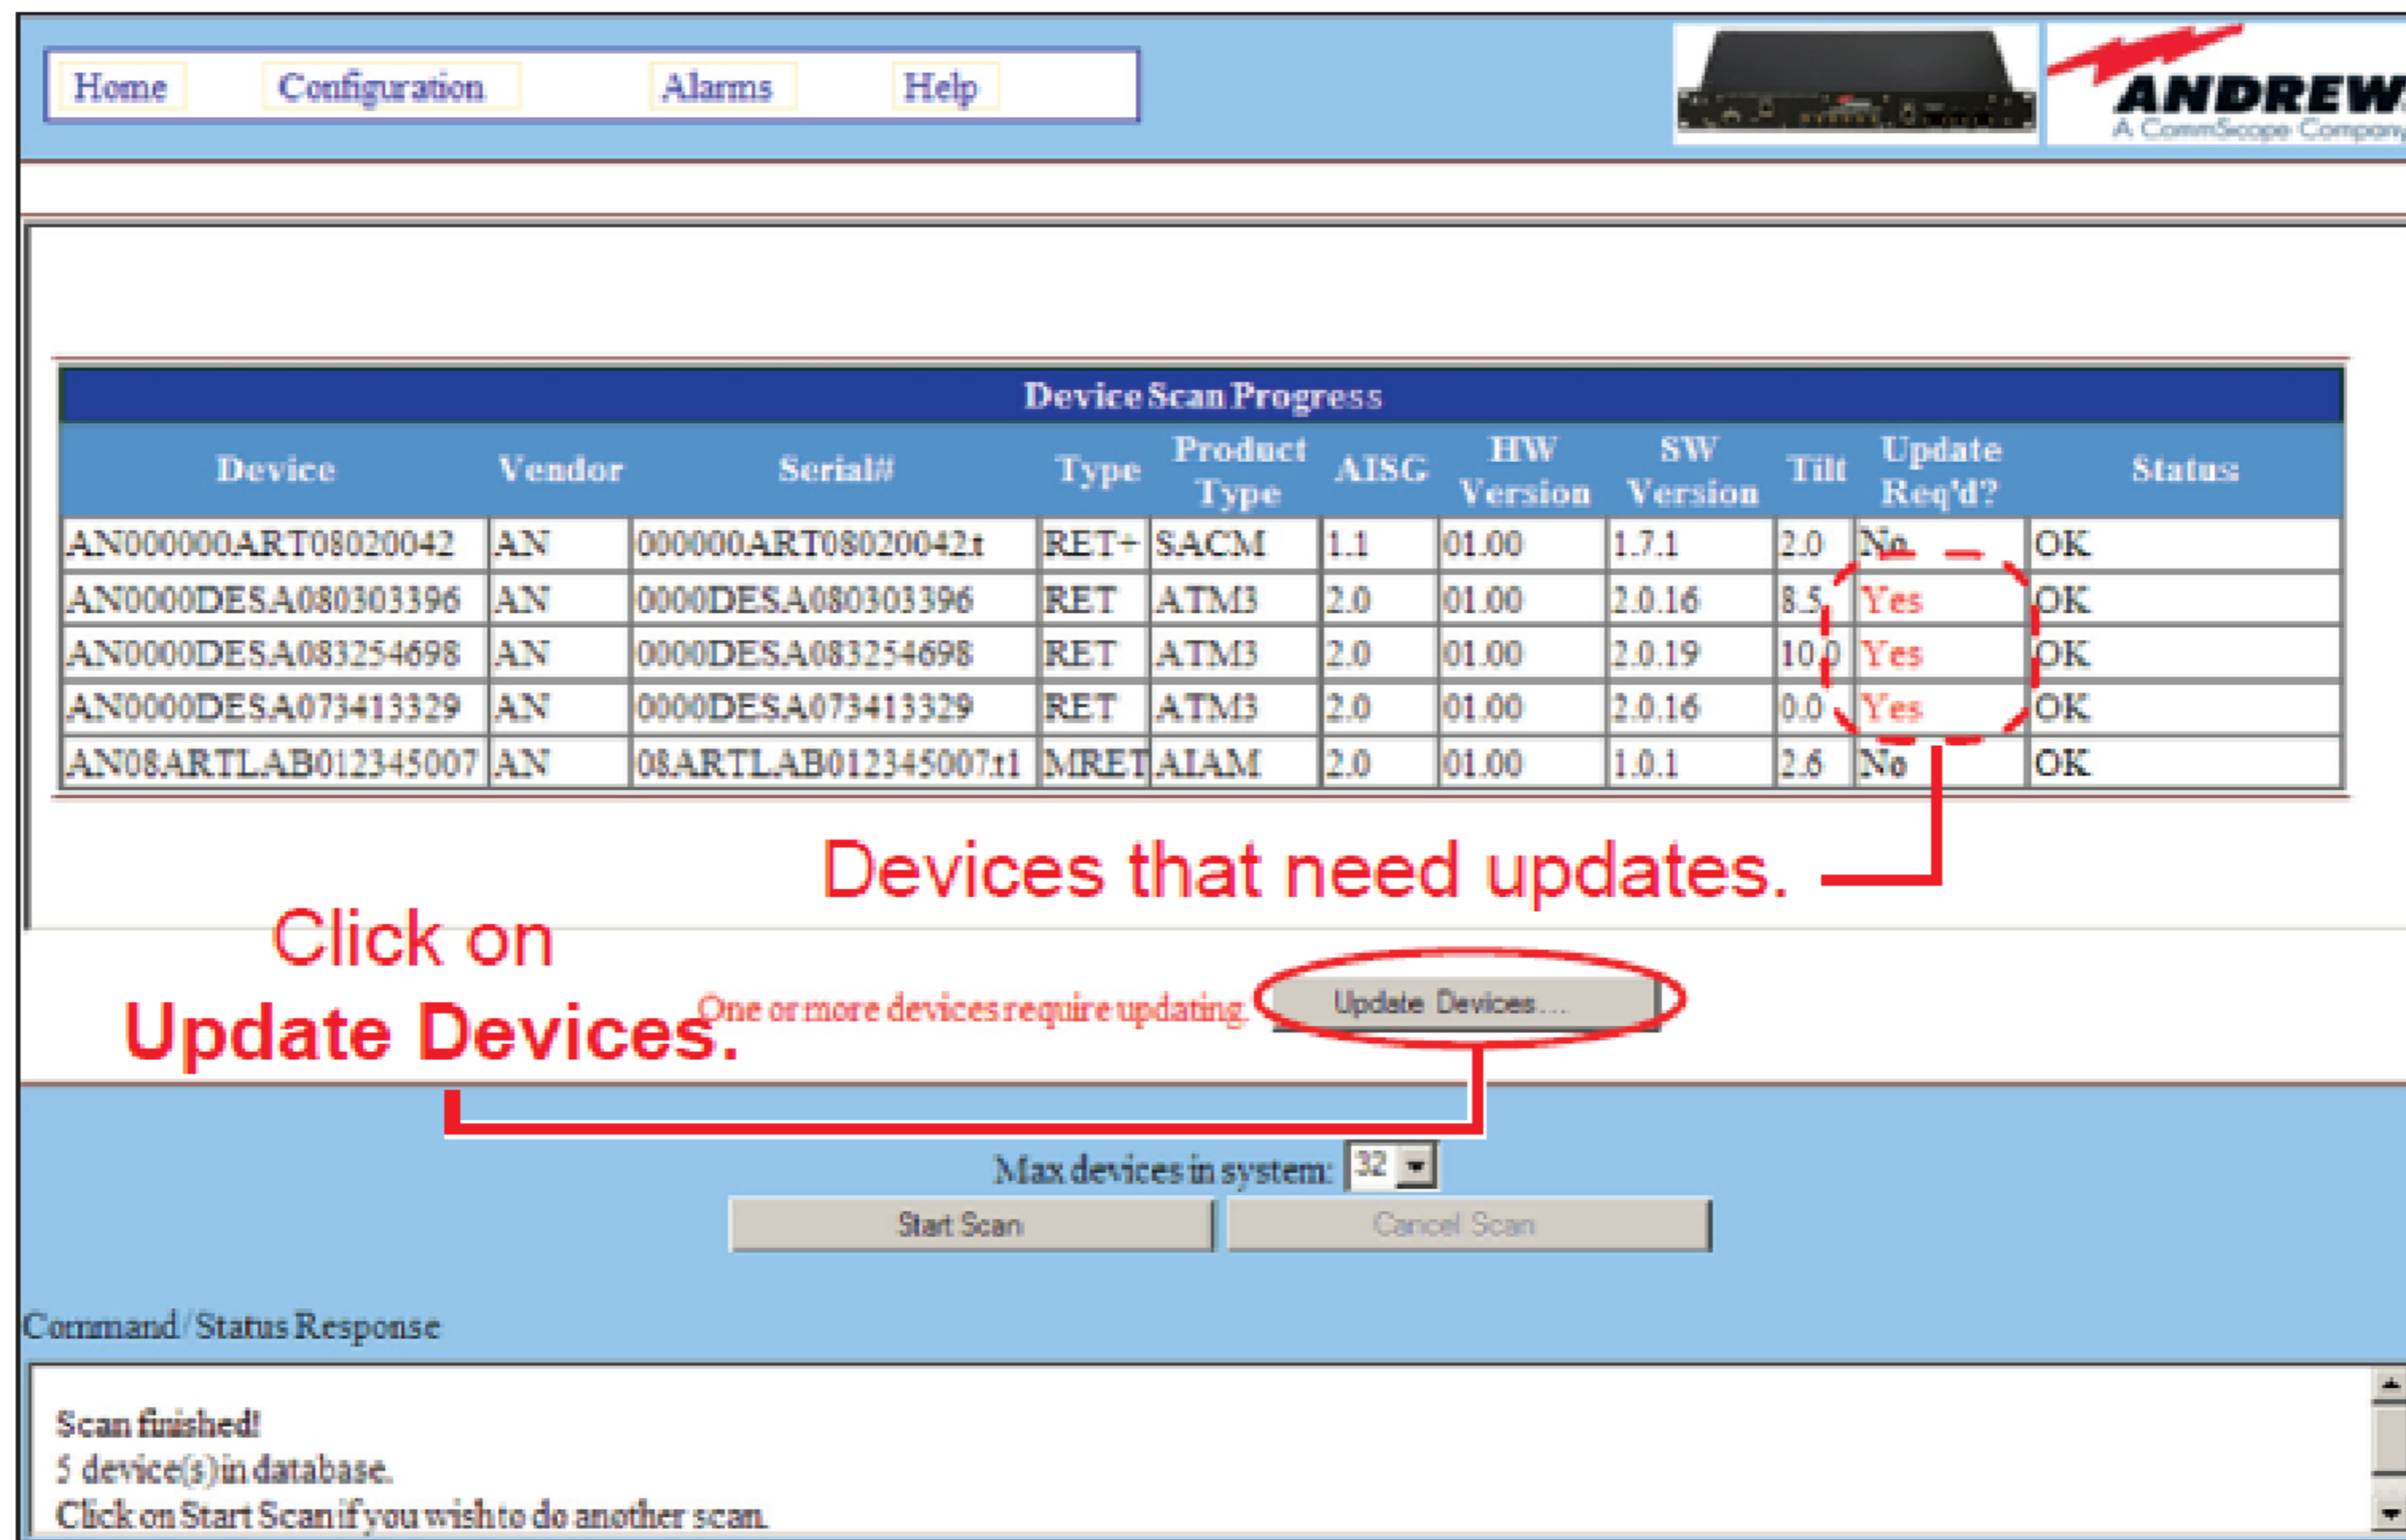

Figure 4. Device Scan Results Show Updates Required.
1. When the device scan is complete, the **Update Req'd** field displays the current firmware status. On the screen below, three actuators require updates (Figure 4).